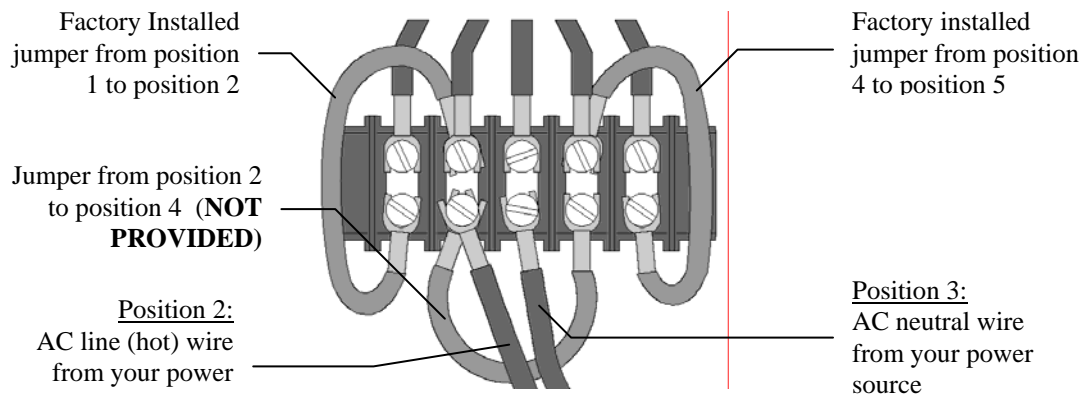

Figure 8 120 VAC Connections
5. If you are going to connect the scoreboard to a 120 VAC supply, connect the AC line wire to position 2 and the AC neutral wire to position 3 of terminal strip T4 on the junction chassis. Add a jumper from position 2 to position 4. **This jumper is not provided.** Refer to figure 8.